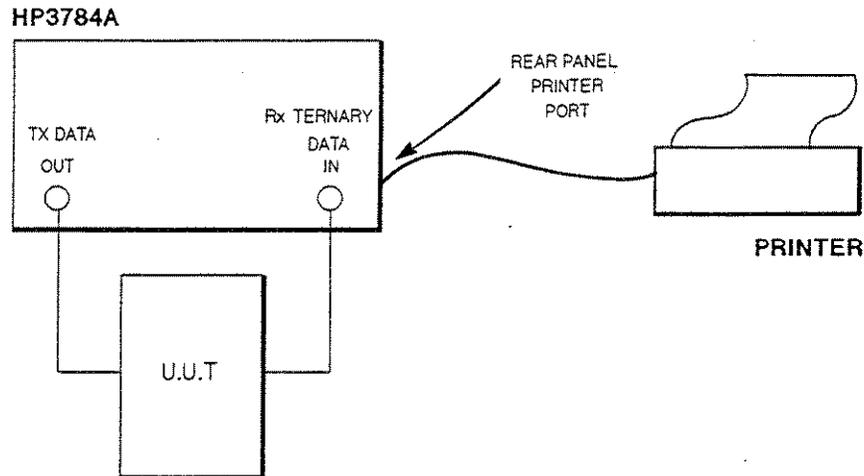

Figure 3-6 Automatic Jitter Tolerance Setup
for the appropriate data rate by CCITT Rec G.823. The equipment setup is shown in Figure 3-6. The signal from the HP 3784A transmitter is input to the system under test, and the signal from the system output is monitored for bit errors. The jitter frequency is set at the lower end of the CCITT range and the jitter amplitude is increased until errors are detected at the output of the system under test. The jitter amplitude is then stepped back for the "no-errors" condition and this value is taken as the Maximum Input Jitter Tolerance, or MIJT, and plotted to the external printer on the jitter tolerance graph.
1. Connect the equipment as shown in Figure 3-6.